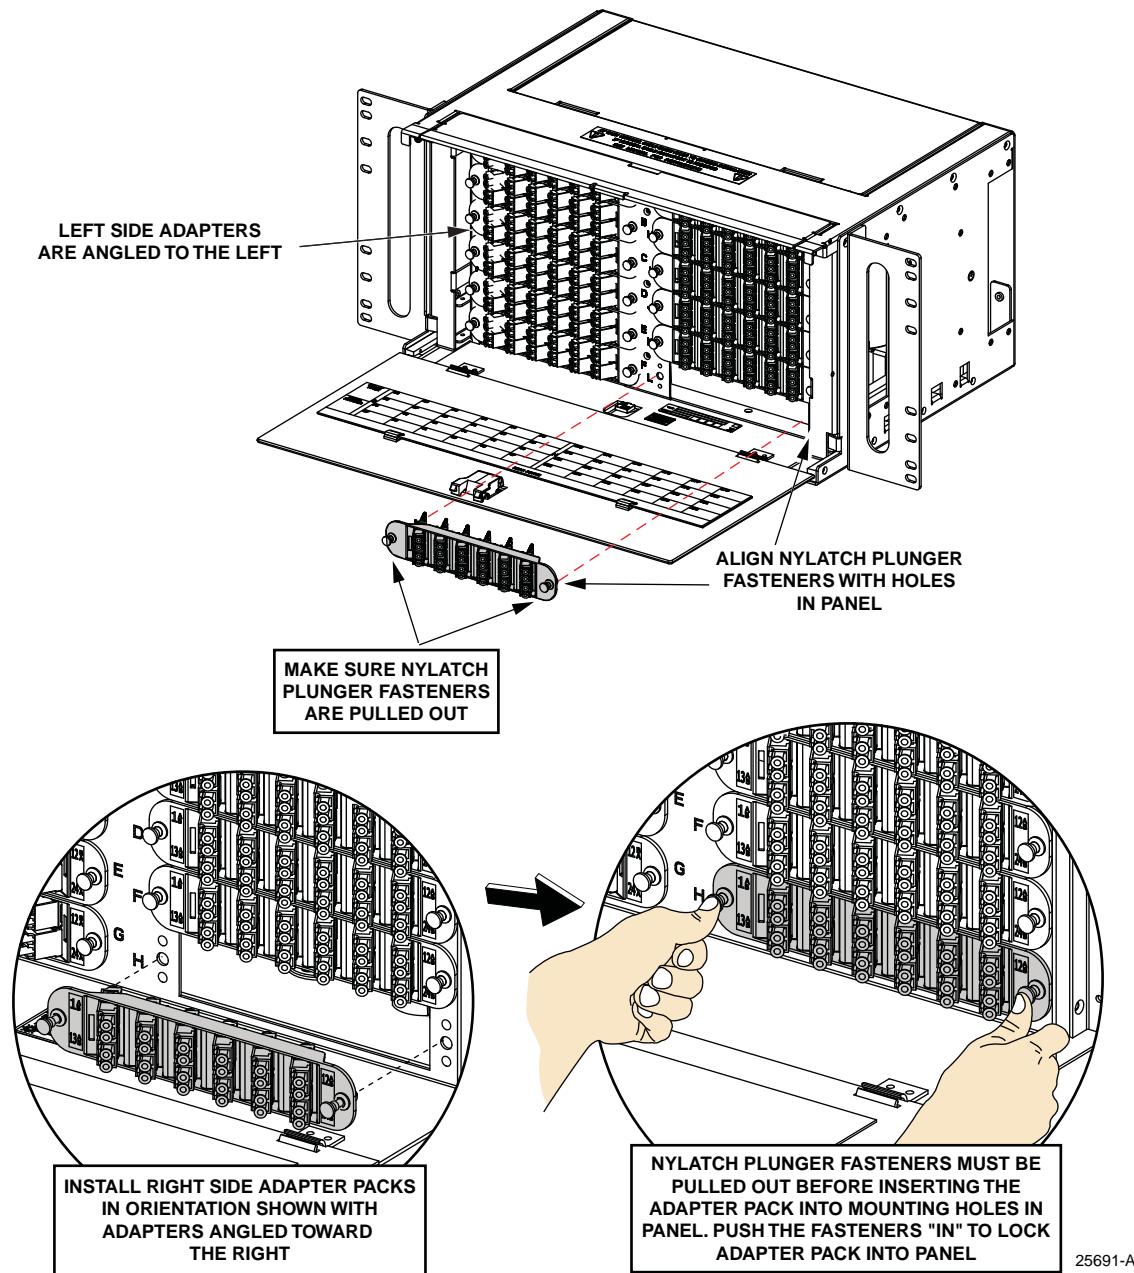

Figure 8. Adapter Pack Installation (5RU Panel Shown)
1. Orient the adapter pack as shown in Figure 8.